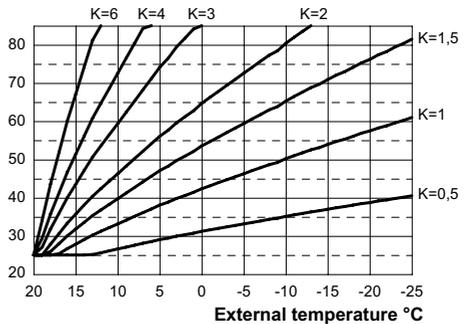

Fig. 7.16
If the boiler is **EQUIPED** with the remote control (optional) refer to Fig. 7.16.
essary to set this parameter based on the efficiency of the heating plant in order to optimise the flow temperature (Fig. 7.16).
E.g. In order to have a flow temperature at the heating plant of 60°C with an external temperature of -5°C, set a K at 1.5 (sectioned line in Fig. 7.16).
- Using keys 12 or 13 it is possible to change the value of parameter 15 from a minimum of **01** to a maximum of **60** based on the selected bend of the K coefficient in Fig. 7.16 (the value read on the display corresponds to K coefficients decimal values).